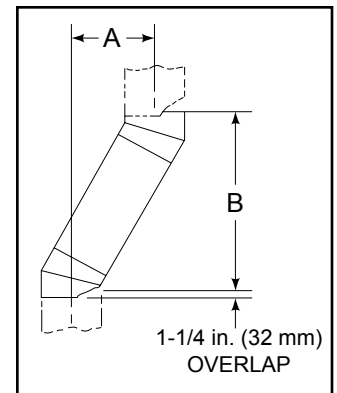

Figure 5.3 Chimney Offset/Return
- Measure how far the chimney needs to be shifted to enable it to avoid the overhead obstacle. See Figure 5.3. Use dimension “A” to determine chimney section required to achieve the needed shift.
➔ **Example:** Your “A” dimension from Figure 5.3 is 14 1/2 in. (368 mm). Using Table 5.2 the dimension closest to, but not less than 14 1/2 in. (368 mm) is 14 1/2 in. (368 mm) using a 30° offset/return. It is then determined from the table that you would need 34 1/8 in. (867 mm) (Dimension “B”) between the offset and return. The chimney component that best fits your application is one SL324.